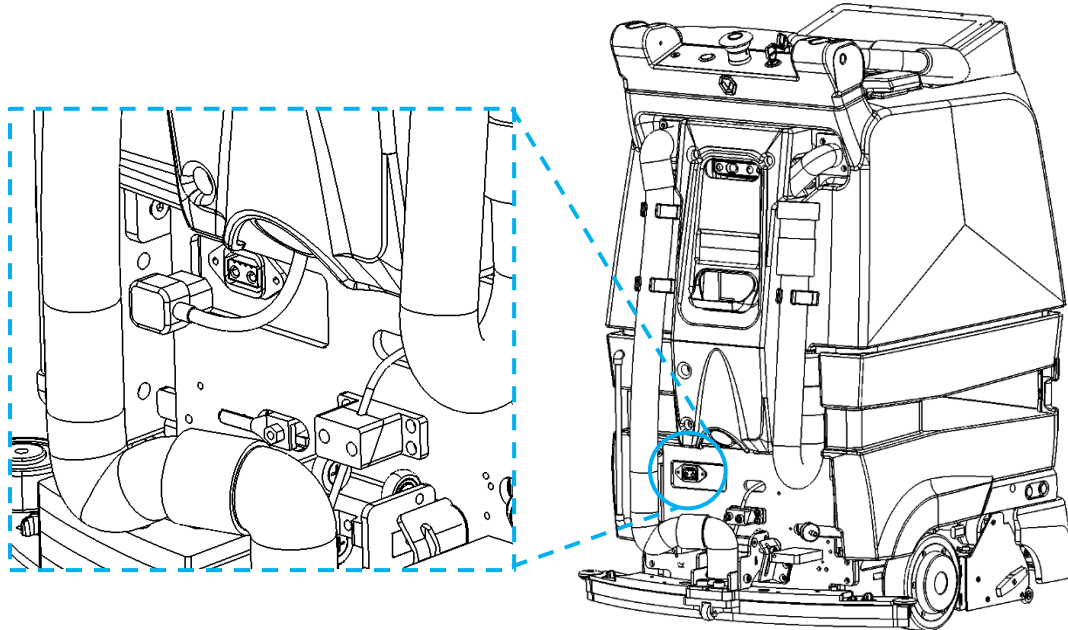

Fig. 1
1. The charging port (Fig. 1 – 1) is located on the rear of the robot at the bottom left above the squeegee.
3. Grab the charger cable and plug it into the charger port (Fig. 1). The cable should fit snugly; it requires some force to be inserted.